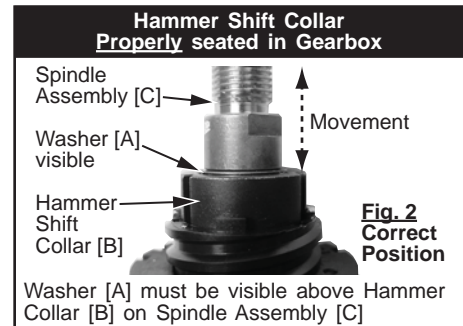

Fig. 2 Correct Position
- Washer [A] visible above hammer shift collar, (fig. 2).
Rotate shift collar left or right by hand until it drops into position shown in (fig. 2). The washer must be visible, and the .160 wide shift collar notch [1] must be in-line or slightly left of top 12 o'clock position, as viewed from the front of the gearbox.
If Washer [A] is not visible, turn collar left or right by hand until it drops into position shown on [fig. 2]. Only one position will allow Hammer Shift Collar to drop down.
- Align hammer icon **T** on clutch collar [A] with drill bit icon **⚡** on collar [B], fig. 2.
- Turn clutch ring assembly to position shown in fig. 2 to view internal clutch ring posts [C,D,E] for correct position prior to assembling clutch ring to gearbox.